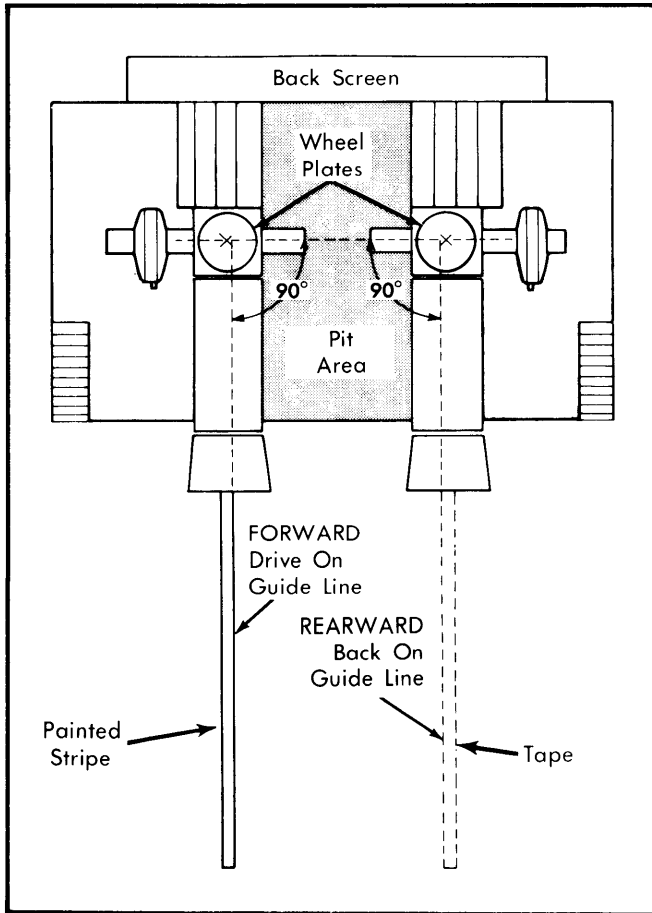

Fig. 16 Typical Alignment Machine Set Up For Eldorado Rear Wheel Alignment
1) Place tape on floor from alignment wheel plate rearward for 20 feet. See Fig. 16. Back vehicle onto alignment machine as straight as possible, with rear wheels on wheel plates.